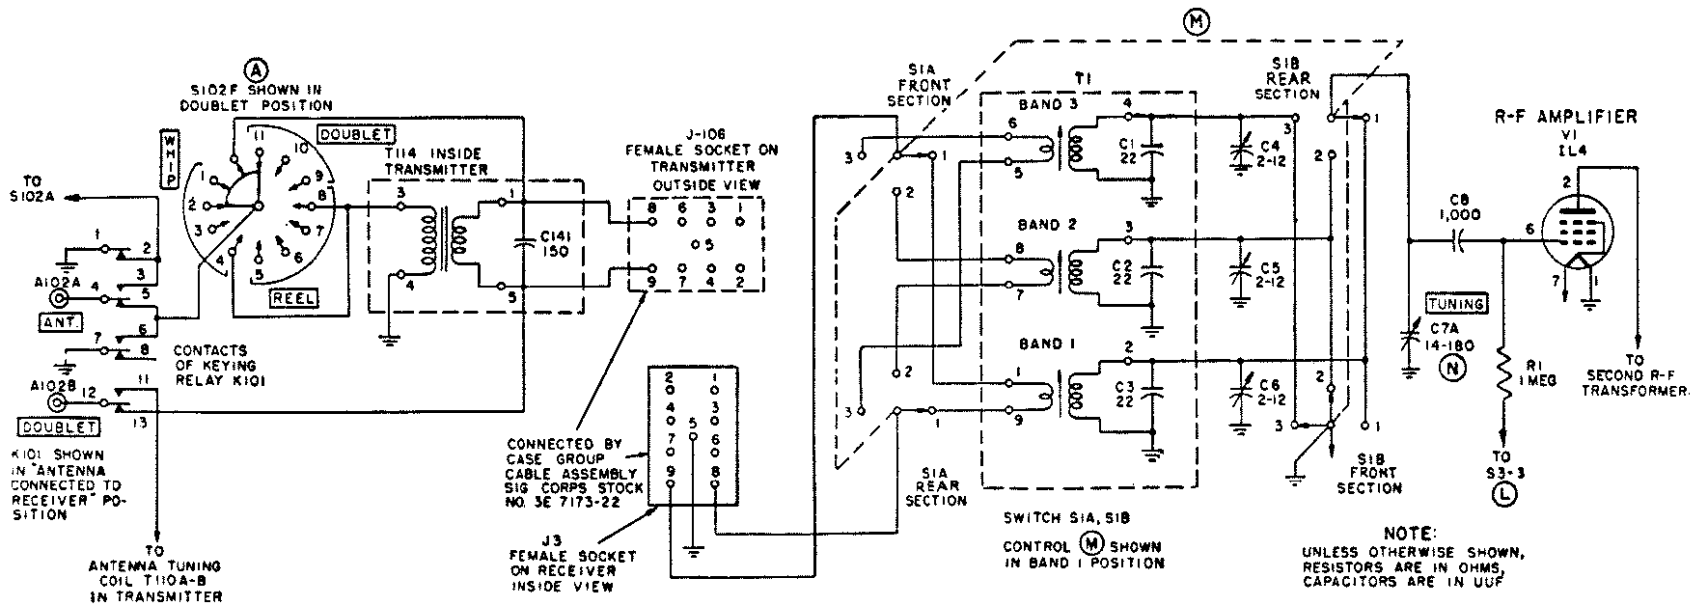

Figure 56. Antenna switching and tuning circuit for receiver.
79. Antenna Switching and Tuning Circuits (fig. 56)
nearest the control knob is denoted as the front section (fig. 56), while the section behind it or furthest from the knob is the rear section.